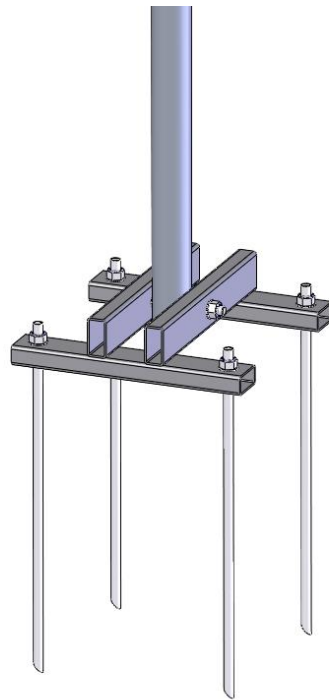

Fig 5: Attached the main tower section to the tower base
9. **Attach the Main Tower Section** - With the main tower section assembled, and the tower base firmly fixed in position, mate the two items together. Move the main tower section over to the tower base. Insert the end of the tube with the 13mm hole into the base and secure it with the M12 X 140 long bolt. Use 19mm A/F spanners to firmly tighten the bolt - see fig 5. The main tower section can now be pivoted to rest upon the ground to carry out the remaining assembly stages. It is recommended that the top end of the main tower section is lifted slightly above the ground by placing it on the tower kit packaging (this will make the next assembly stages easier to complete)